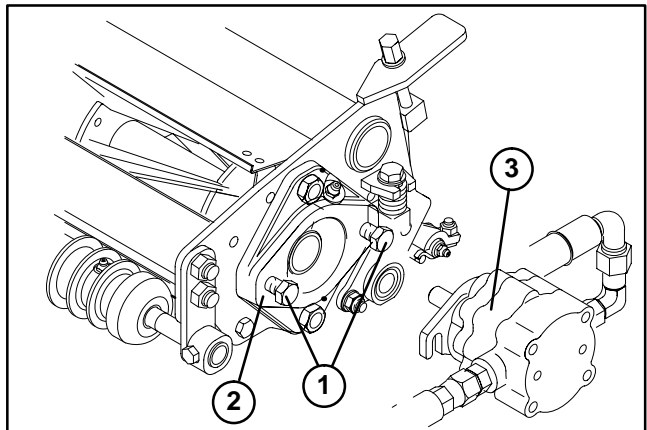

Figure 20
2. Loosen flange head screws on the bearing housing that secure the hydraulic motor to the cutting units. Rotate motor clockwise, and remove motor from the bearing housing (Fig. 20).